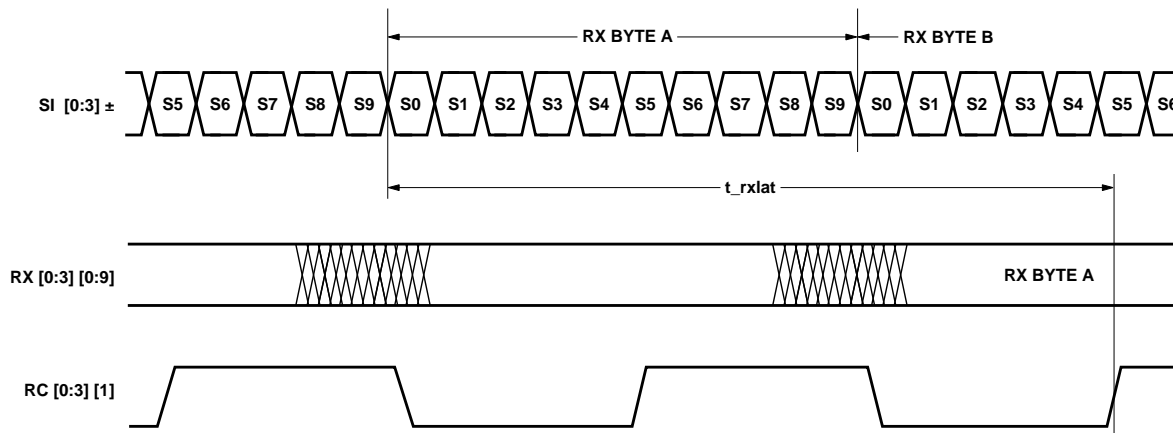

Figure 6. Receiver latency.
3. The receiver latency, as shown in Figure 6, is defined as the time between receiving the first serial bit of a parallel data word (defined as the edge of the first serial bit) and the clocking out of that parallel word (defined by the rising edge of the receive byte clock, RC[0:1]).